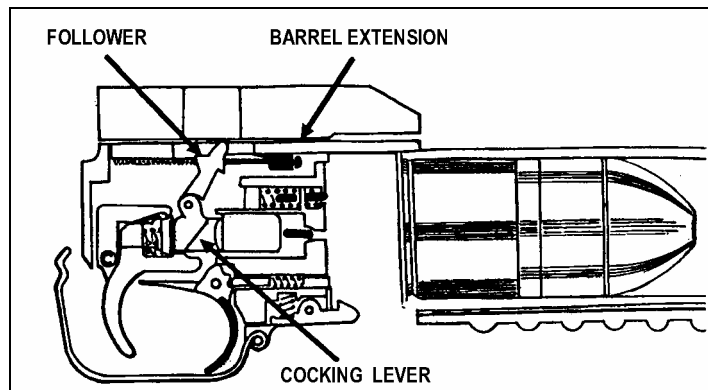

Figure 2-4. Cocking the M203 grenade launcher.
(1) The cocking lever is forced down as the barrel assembly and barrel extension, which are interlocked with the cocking lever, move forward.
(2) The movement of the cocking lever forces the spring-loaded firing pin to the rear.
(3) The spring-loaded follower also moves forward with the barrel extension.
(4) The barrel assembly continues forward, disengaging the barrel extension from the cocking lever. The cocking lever is then held down by the follower.
(5) When the grenadier begins to move the barrel assembly back to the rear, this forces the follower to the rear.
(6) The cocking lever again engages the barrel extension, which causes the firing pin to move slightly forward and engage the primary trigger sear. This cocks the weapon (Figure 2-4, page 2-4).